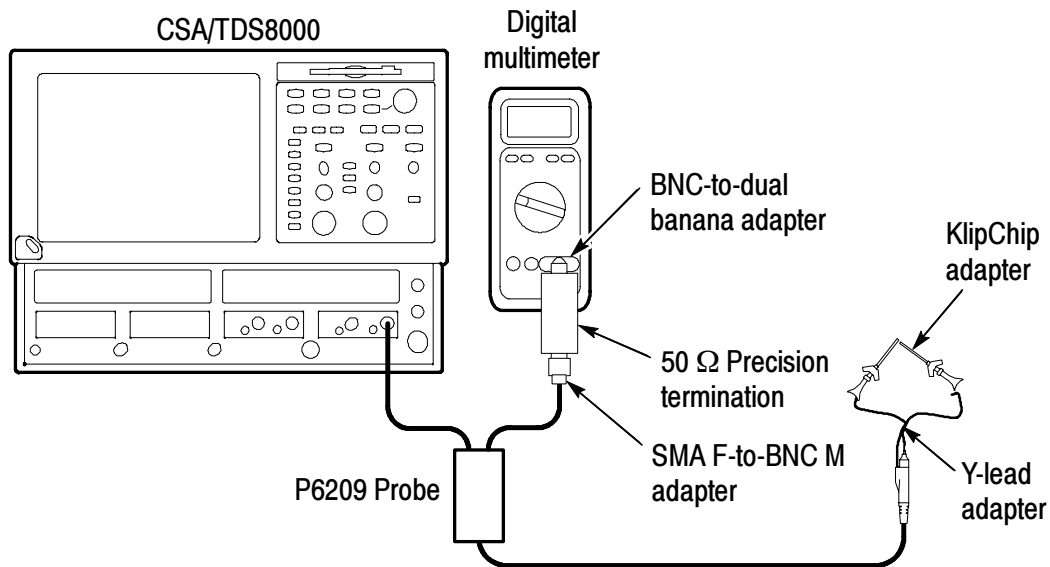

Figure 12: P6209 output zero setup
1. Connect the test equipment as shown in Figure 12.